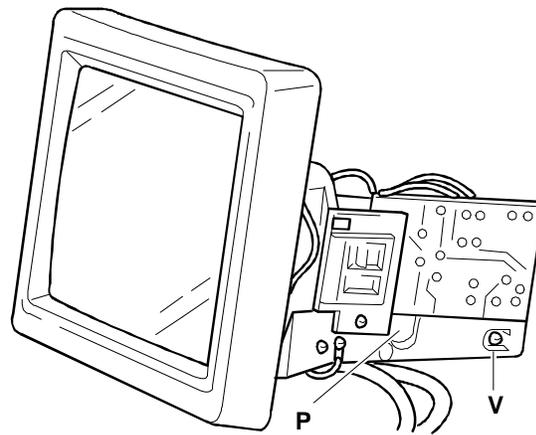

Fig. 35-5 Removing the Power Supply Board
- Remove screw (V) and slide off pin (P), shown in figure 35-5.